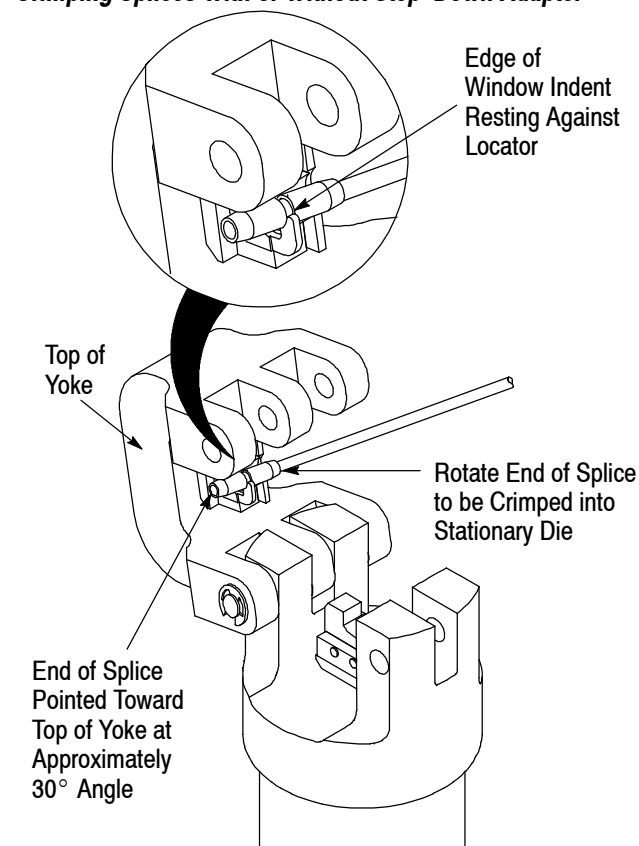

Figure 5
5. Place the splice in the stationary die. Grasp the end of the splice to be crimped and point the opposite end toward the top of the head yoke at approximately a 30° angle. Rotate the end of the splice to be crimped into the die. Position the edge of the window indent against the locator. Refer to Figure 5.
- Place the splice in the stationary die. Grasp the end of the splice to be crimped and point the opposite end toward the top of the head yoke at approximately a 30° angle. Rotate the end of the splice to be crimped into the die. Position the edge of the window indent against the locator. Refer to Figure 5.